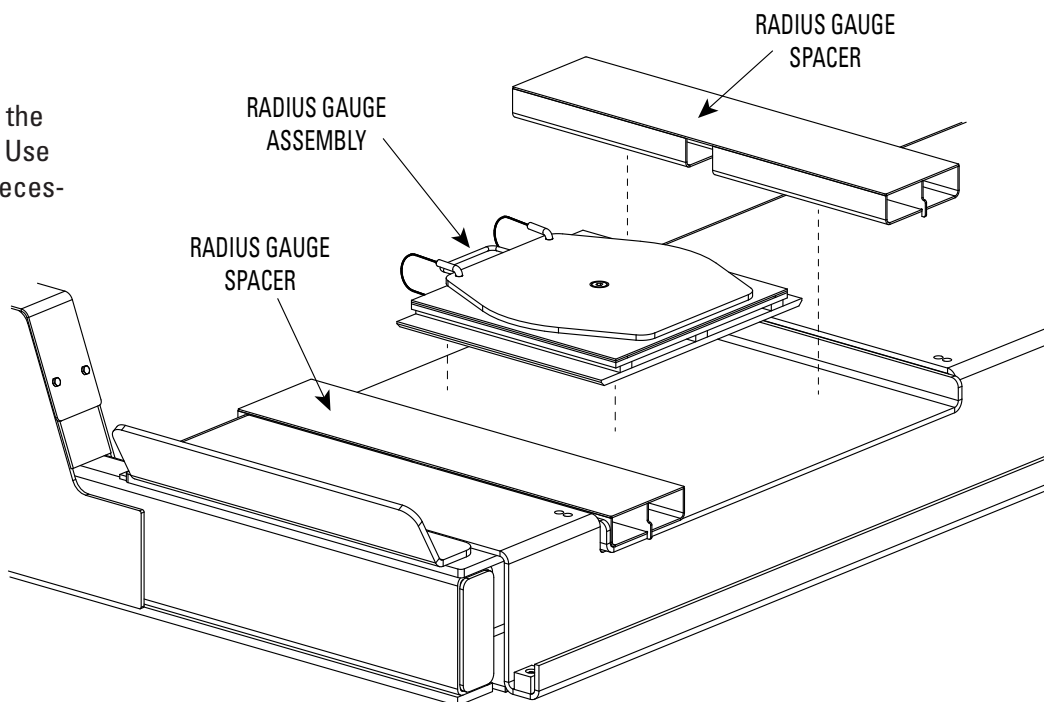

Fig. 43
- A. Place the radius gauges in the recesses of both runways. Use radius gauge spacers as necessary, Fig. 43.